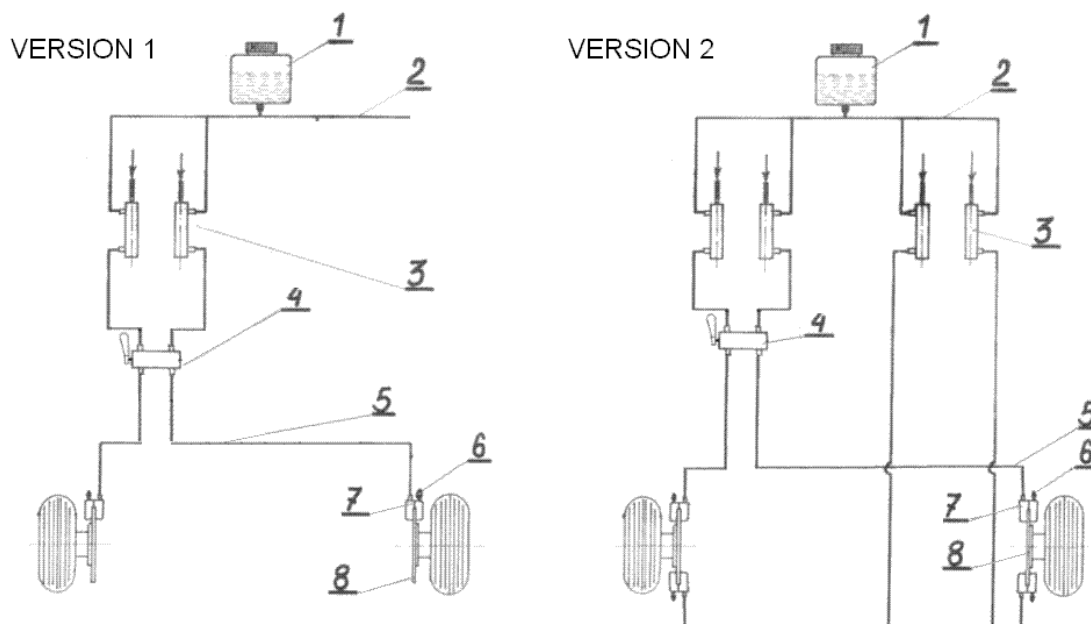

Figure 10-5 Diagram of the brake system
10.3 BRAKE SYSTEM (see Figure 10-5)